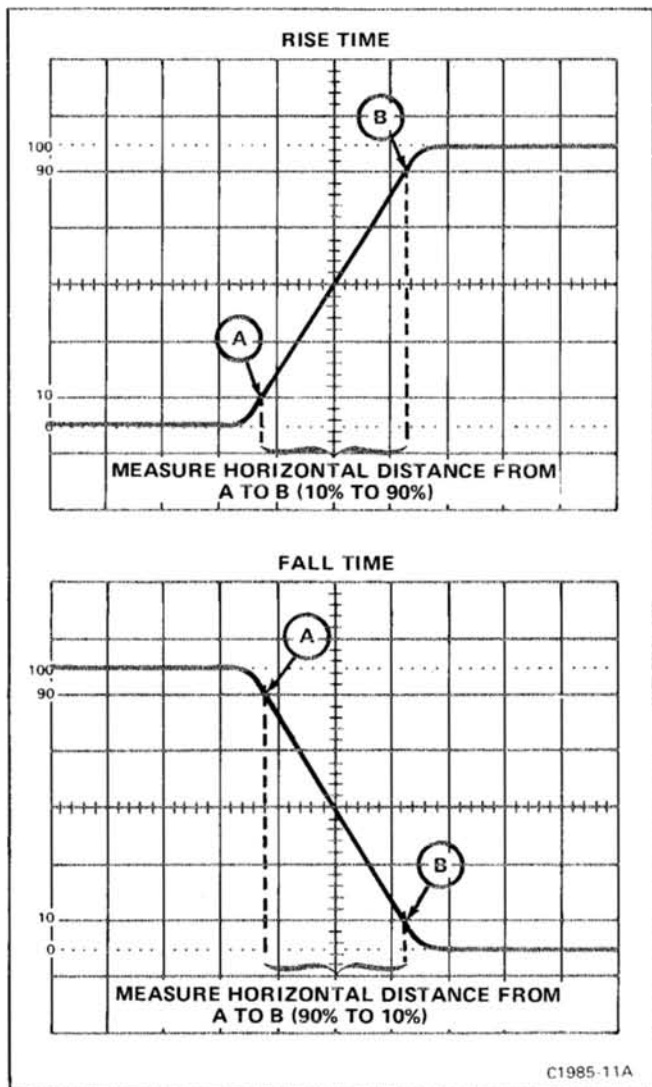

Figure 1-8. Measuring the rise time and fall time of a displayed waveform.
6. Set the TIME/DIV switch and POSITION control to display the rising or falling portion of the waveform within the center 8 graticule divisions as shown in Figure 1-8 (see General Operating Information in this section for discussion of timing measurement accuracy).
7. Determine rise time or fall time by measuring the horizontal distance in divisions between the point on the rising or falling portion of the waveform that is 10% and the point that is 90% of the total display amplitude (see Fig. 1-8).
Example: Assume that the horizontal distance from the 10 to 90% points is 2.5 divisions and the TIME/DIV switch setting is $.1 \mu\text{s}$ (see Fig. 1-8).